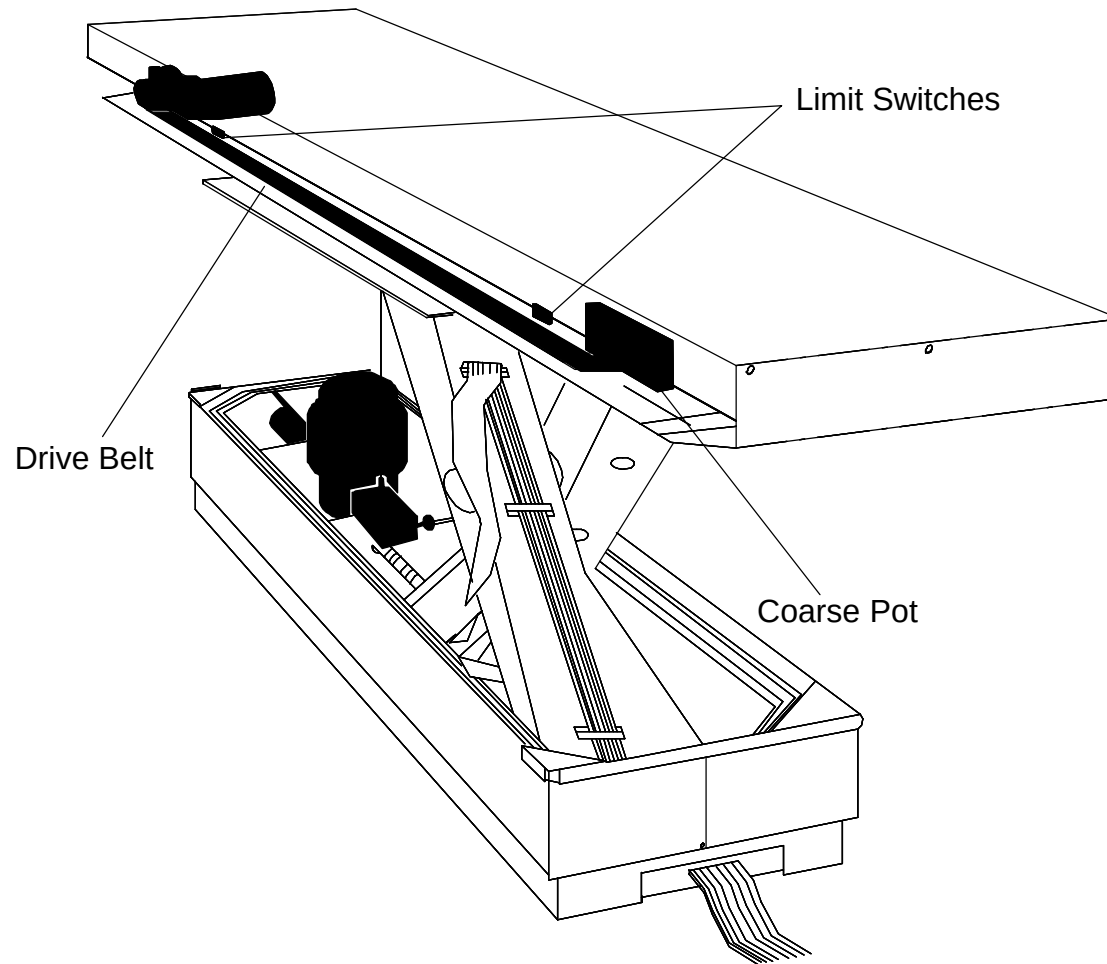

FIGURE 114 INSPECTION POINTS
4. Look up under the support table top and inspect the drive belt in the table resolver assembly for any excessive wear or damage such as grooves or slipping. Refer to Figure 114. Repair/replace as needed.